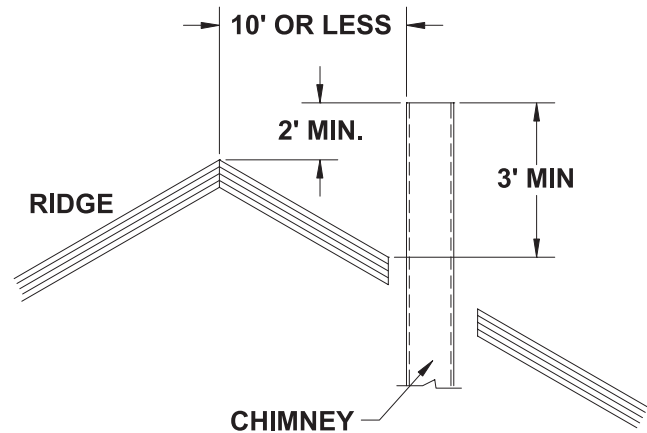

Figure 10 – Vent Termination from Peaked Roof - 10' or Less From Ridge
**IMPORTANT: Vent terminations are not shown in Figures 10, 11, 12, and 13. Make sure all vertical vents are installed with vent terminations recommended by the vent manufacturer.**